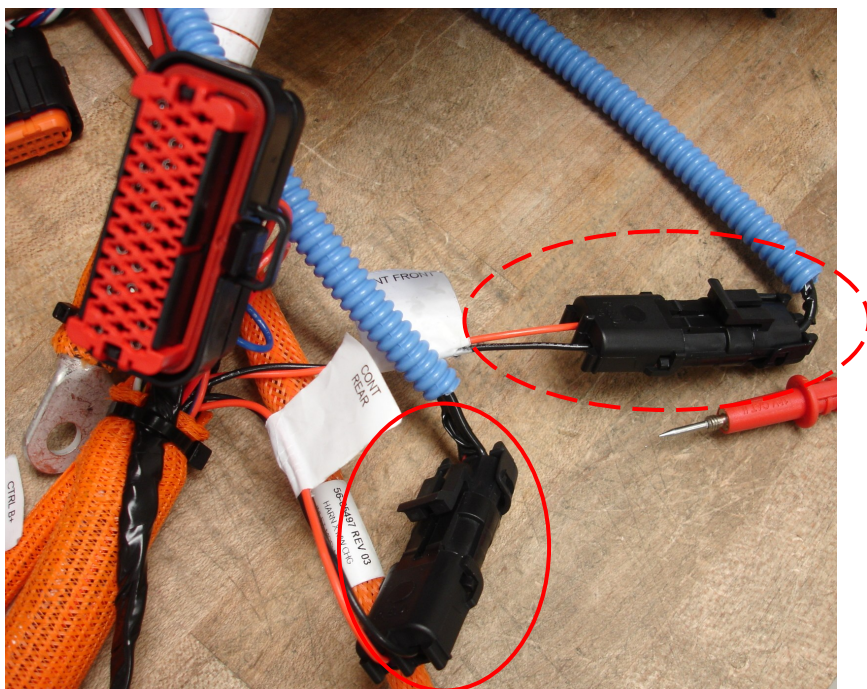

Figure 63
44. Once the audible beep in the previous step has been verified, one has confirmed the female REAR contactor signal connector labeled 'CONT REAR'. Connect 'CONT REAR' female connector to the REAR contactor male connector. See **SOLID CIRCLE** in FIGURE 63.
45. The other connector is for the FRONT contactor and is now to be plugged in to the harness connector labeled 'CONT FRONT'. See **DASHED CIRCLE** in FIGURE 63.